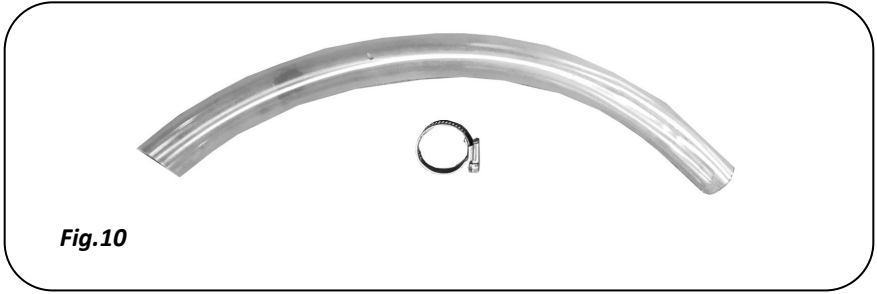
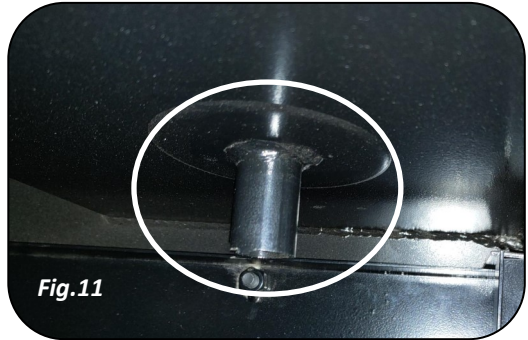

Fig.10
Fig.11
- Connect the return hose Fig.10 & Fig.11 to the connector inside the saw.
- Connect the hose and secure in place with the screw clamp from Fig.10